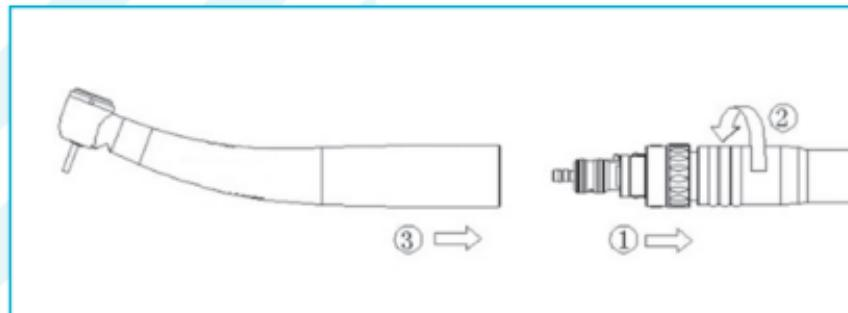

Fig. 6-9
- Screw the LED couplings onto the turbine hose (Fig.6-9①).
- Tighten the screw cap of the turbine hose hang-tightly (Fig.6-9②).
- Assemble the medical device accurately on the LED coupling until the coupling audibly locks in the medical device (Fig.6-9③)